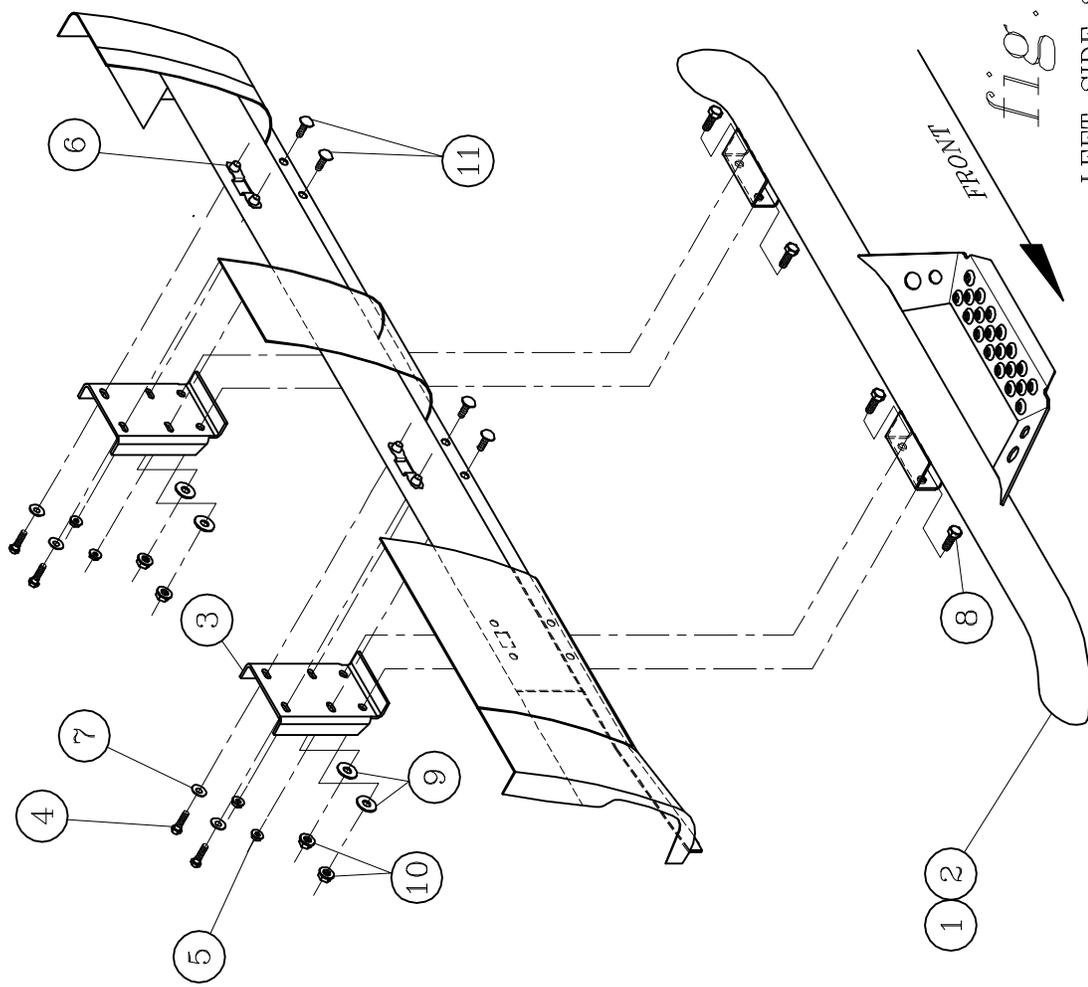

fig. 1
- 2.1. LAY NERF BAR ASSEMBLIES (ITEM #1, & 2) ON FLAT SURFACE, AND ATTACH THE MOUNTING BRACKETS (ITEMS #3) TO EACH NERF BAR IN THE LOCATIONS AS SHOWN IN (FIG. 1), USING THE SUPPLIED 3/8-16 X 1 SCREW, 3/8" FLAT WASHER, & 3/8-16 SERRATED FLANGE NUT, (ITEMS #8, 9, & 10). LEAVE THESE FASTENERS FINGER TIGHT AT THIS TIME.